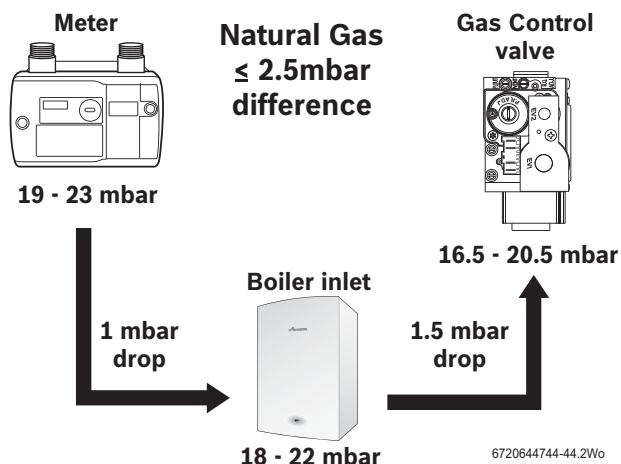
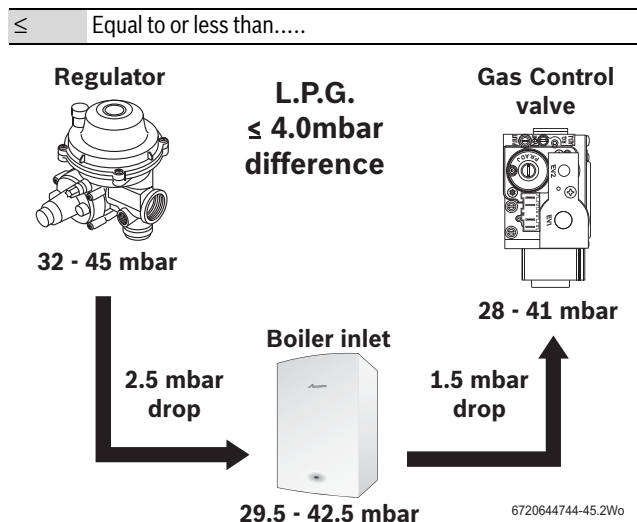

Fig. 67 Natural gas pressures
Fig. 68 L.P.G. pressures
- ▶ Slacken the screw in the inlet pressure test point (1) and connect a manometer.
- ▶ Check the gas supply working pressure at the gas valve conforms to values shown in Fig. 67 or Fig. 68 .